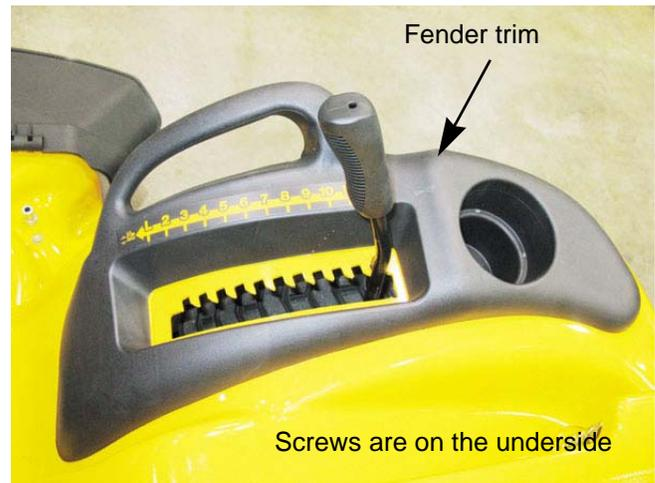

Figure 8.39
2. Remove the four screws that fasten that right side fender trim to the fender using a 3/8" wrench. See Figure 8.39.